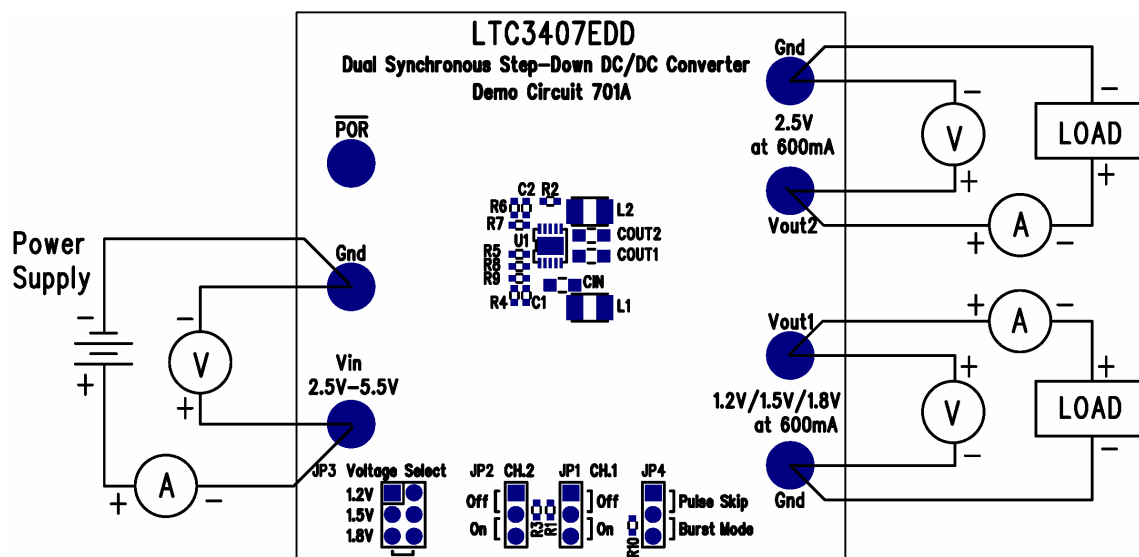

Figure 1. Proper Measurement Equipment Setup
Demonstration circuit 701 is easy to set up to evaluate the performance of the LTC3407. Refer to Figure 1
1. Connect the input power supply to the Vin and GND terminals on the left-side of the board. Do not hot-plug Vin or increase Vin over the rated maximum supply voltage of 5.5V, or the part may be damaged. Connect the loads between the Vout and GND terminals on the right-side of the board. Refer to Figure 1 for the proper measurement equipment setup.